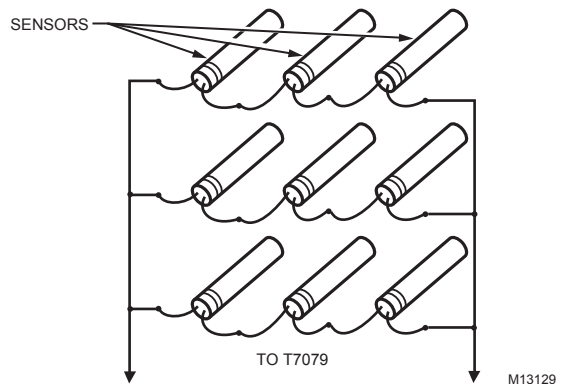

Fig. 2. Parallel-series wiring of sensors.
- Multiple sensors can be parallel-series wired to sense average temperatures in large spaces. See Fig. 2.